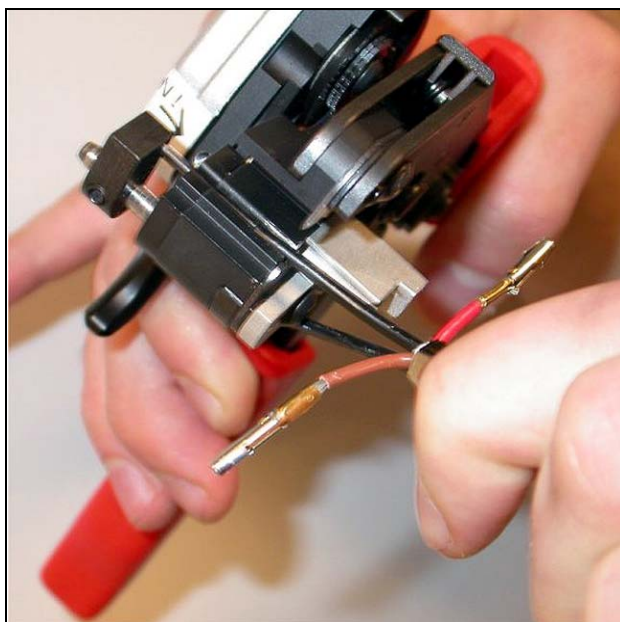

figure 3.15: Stripping a fiber
- 16 Slide one of the fibers into the front part of the POF cutter/stripping tool (tool 6, see figure 3.15).